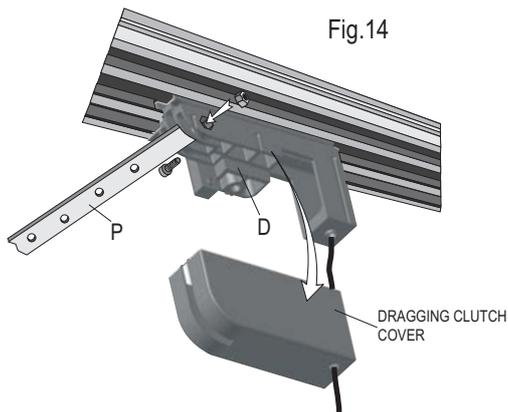
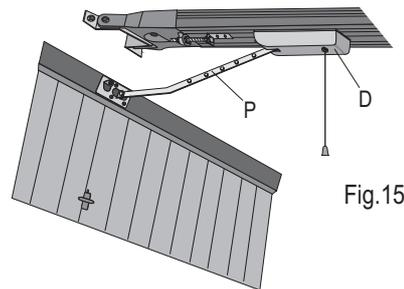

Fig.14
Fig.15
12 - Remove the cover of dragging clutch (D) in order to connect the dragging arm (P) as indicated (fig.15). Insert the dragging arm in the proper seat and connect it by using the appropriate screw (fig.14). Assemble the cover with the release wire as in origin.